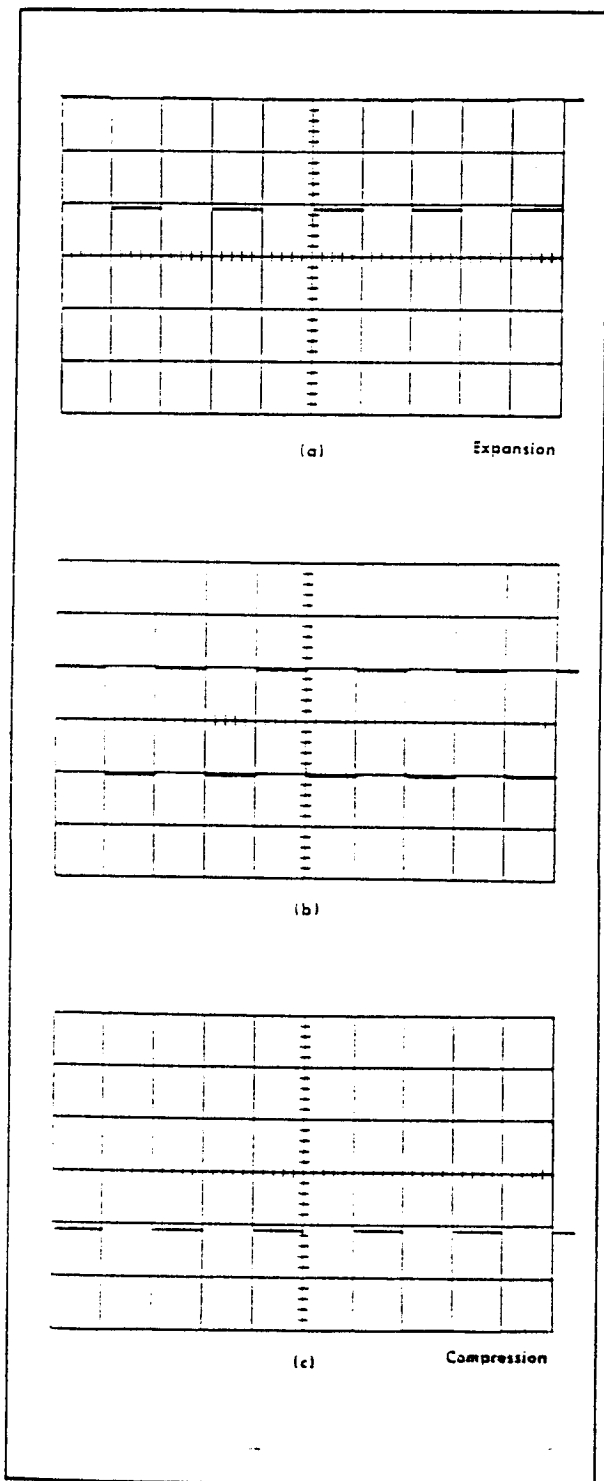

Fig. 6-23. Typical CRT display showing acceptable compression and expansion. Waveform (a) shows expansion; waveform (c) shows compression.
- f. Check—Compression or expansion should not exceed 0.15 division (see Fig. 6-23).
- h. Check—Compression or expansion should not exceed 0.15 division (see Fig. 6-23).
m. Check—Compression or expansion should not exceed 0.15 division (see Fig. 6-23).
o. Check—Compression or expansion should not exceed 0.15 division (see Fig. 6-23).